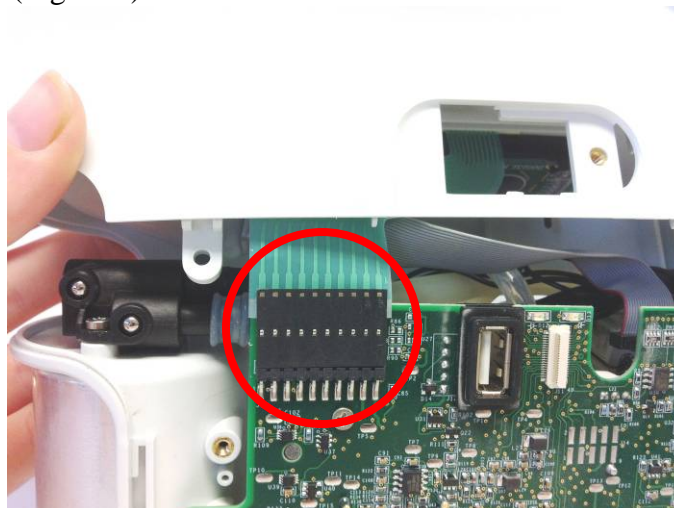

Figure 7: Unplug UIP cable from motherboard
7. Gently pull upward on the user interface panel to lift it about a centimeter off the device, being careful not to pull on the cables that are connected to the user interface panel. With the UIP cable connector exposed on the motherboard, gently unplug the UIP cable from the motherboard (Figure 7).